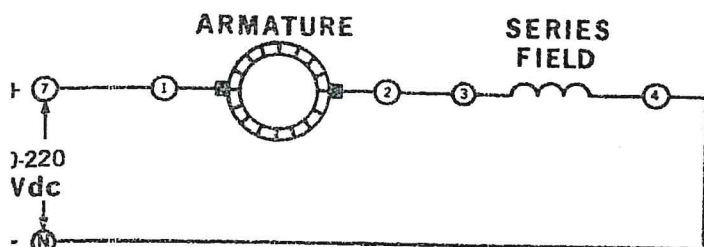
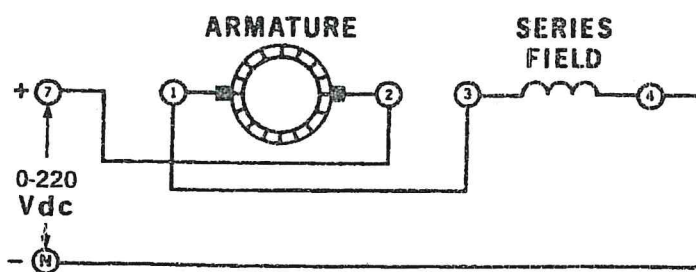

Fig. 12-2
Fig. 12-3
□ 5. Using your EMS Power Supply, DC Metering and DC Motor/Generator Modules, connect the circuit shown in Fig. 12-2. Notice that the armature is connected in series with the series field winding, across the input voltage.
□ 9. Reconnect your circuit as shown in Fig. 12-3. (The only change made to the circuit of Fig. 12-2 is that the connections to the armature have been reversed).
□ 10. Repeat Procedures 6 through 8 (using the reversed armature connections shown in Fig. 12-3).